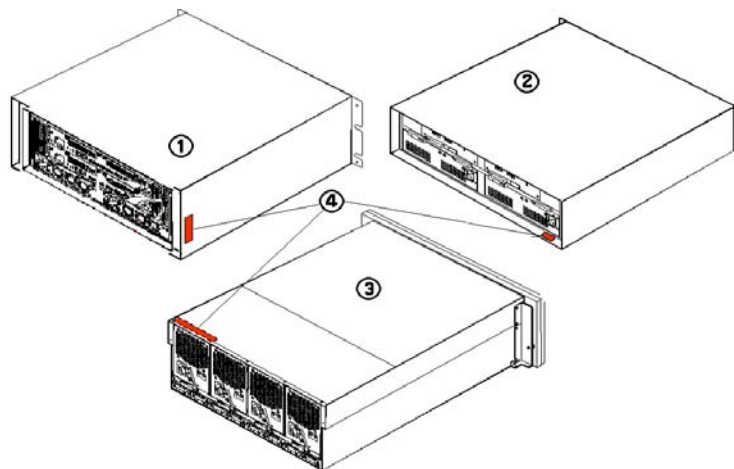

Figure 2-3: Locations of Array Serial Number Labels
- b. If you have already located the array by observing warning or failure lights, obtain the serial number from the label, as shown in Figure 2-3.